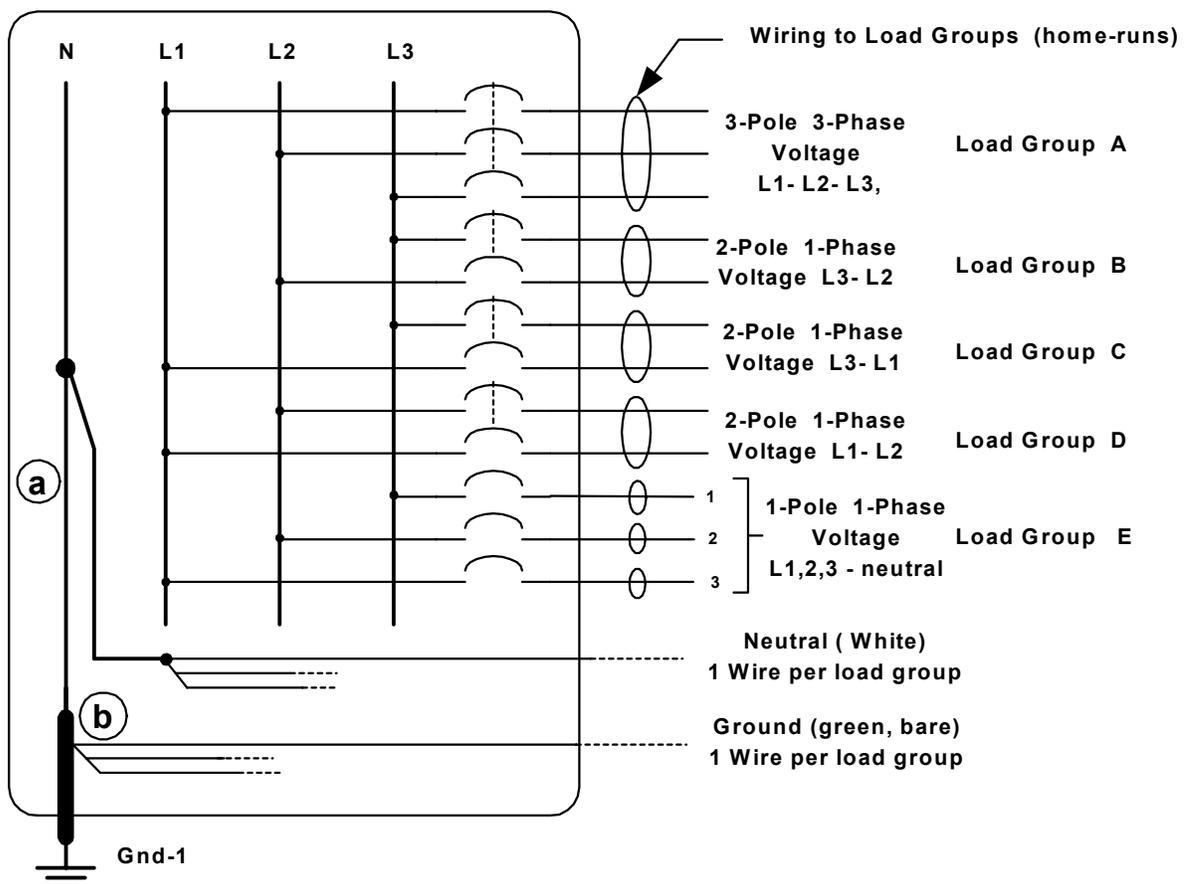
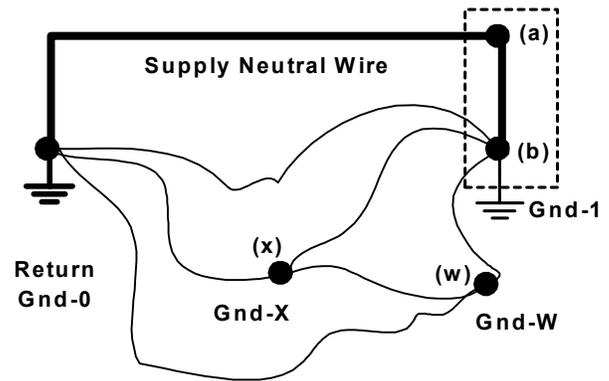
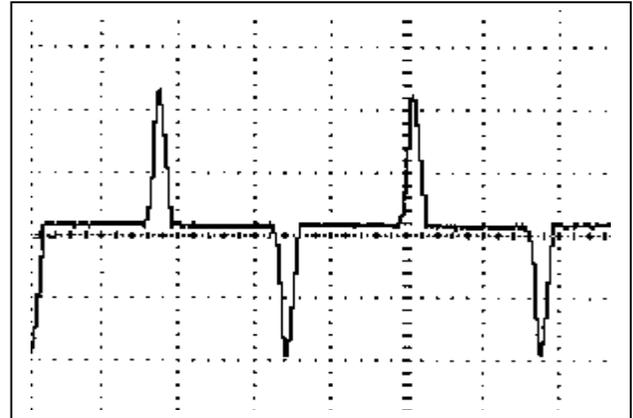

Figure 5
Figure 6
Figure 7
Voltages are distributed to the various loads within a facility through a main disconnect and circuit breaker panel (some situations allow the use of special fuses). Distribution safety is mandatory; consequently, the safety requirements established by the National Electric Code (NEC) together with local building codes must be followed. Figure 5 illustrates a generic panel and is presented here to indicate how voltages are distributed and where ground connections are made.
For example, voltages supplied to a specific load group might be distributed with a “12-3 w/Gnd” UF cable. This is an underground cable containing 4 each number 12 gauge wires; a white wire used only as neutral, a red supply wire, a black supply wire, and a bare (or green) wire used only as ground. Wiring groups, which distribute voltage to specific loads are often refer to as “home-runs”. Each home-run contains colored supply line wires (black, red, etc) for the appropriate L1, L2, L3 phase voltage(s) needed and a neutral wire, always white, and generally a green or bare copper wire, for grounding. Ground wires are never allowed to conduct any load current. Each supply phase in a home-run wire group is circuit breaker protected. In addition, both the white neutral (return) wire and the ground wire are continuous and return to points (a) and (b) in the circuit breaker panel, see Figure 5. One could think of the white neutral wires and ground wires emanating from the panel box like spokes on a wagon wheel. Note that;
Figure 6 illustrates this situation using two additional points (w) and (x) connected to “grounds” somewhere within the facility.
The flow path for this sudden change in neutral line current is from point **(a)** in the circuit breaker panel (Figures 5, 6) to the utility's supply return point, Gnd-0. Figure 6 clearly indicates that the exact "return" path for this sudden change in current is essentially impossible to analyze; however, we do know that there will be a sudden change in the voltage at "ground" points Gnd-1, Gnd-X, and Gnd-W. Instrumentation equipment and associated sensors may be damaged by this surge.
Note: The single-phase 120-volt loads shown in Figure 5 as Group E form a composite 3-phase wye connected unbalanced load where the wye connection point is the **(a)-(b)** connection. Losing the supply neutral return wire will cause point **(b)** and all the connected earth grounds to support an unexpected surge in current due to an attempted sudden rise in voltage at point **(b)**. This is analogous to the failed motor in the above Case 2.
waveforms, which all vector sum at point **(a)** in circuit breaker panels, see Figure 5. Figure 7 illustrates this switching power supply phenomenon.
The data in Figure 7 was taken with a Tektronix Digital Storage Scope (DSO) using a current transformer (CT) type probe on the 115-volt supply neutral (white) wire. These test data show that a single computer can generate current spikes with amplitudes of almost 4 amperes on the neutral line. Consider an office facility with several dozen PCs, printers, copiers, and scanners. All the neutral current pulses from these devices vector sum at point **(a)** in the main circuit breaker panel. See Figures 5, 6. Clearly these spikes can create sudden, unexpected, and undesirable voltages at all the ground points.